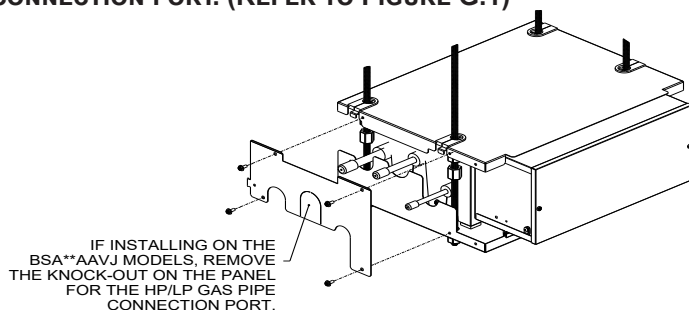

FIGURE G.1
**IMPORTANT: FOR BSA\*\*AAVJ MODELS, REMOVE THE KNOCKOUT ON THE RIGHT PANEL FOR THE HP/LP GAS PIPE CONNECTION PORT. (REFER TO FIGURE G.1)**
**2.1** Install the Right-Side Panel (Item 6) by placing it over the side flanges of the top and bottom panels, then secure it at each indicated location. Ensure the Edge Seal is correctly seated. (Refer to Figures G.1 and G.2)